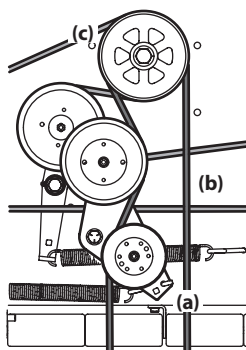

Figure 4-19
4. Using a 1/2" drive in the idler pulley bracket (a), turn the wrench towards the right of the tractor and slide the PTO belt (b) off the PTO pulley (c). See Figure 4-19.